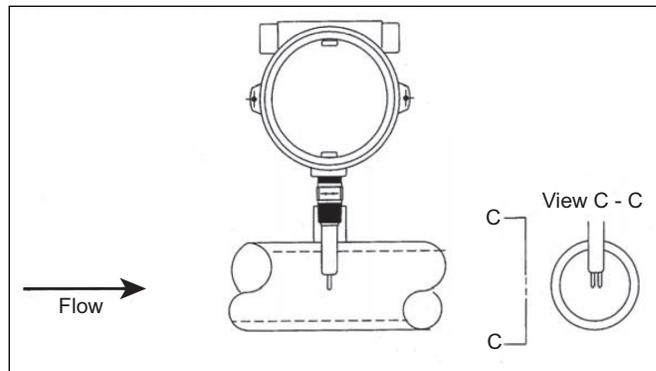

Figure 2.1 Flow Application
3. Install the flow sensor into the outlet pipe as shown in Figure 2.1.
- Verify the sensor has proper orientation in the pipeline as shown in Figure 2.1.